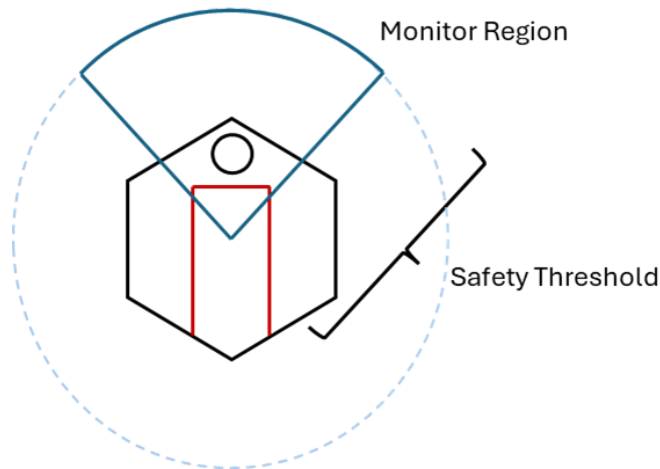

Figure 6. Dynamic Scanning
2. Notice that in addition to the LiDAR measurements, QBot body speed commands are also used as input to the function. This is to allow our obstacle detection algorithm to dynamically change monitor region and safety threshold, as shown in Figure 6.